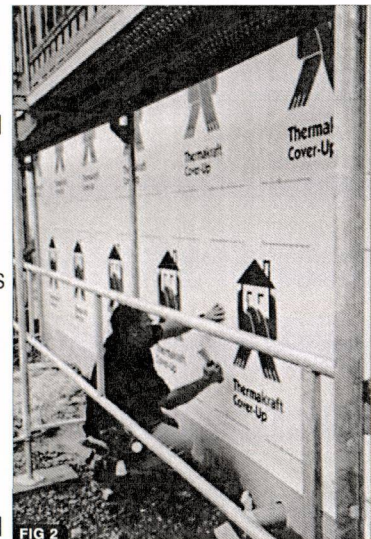

FIG 2
1. **Thermakraft Cover-Up** is applied to all exterior walls from below bearers to the top plate (Fig 3). Fix securely to the frame with fasteners such as galvanised Little Grippers, or 6mm-8mm staples, or 20mm large head galvanised clouts at 300mm centres horizontally and vertically (Fig 2). Additional fasteners should be used around each opening to be cut out.